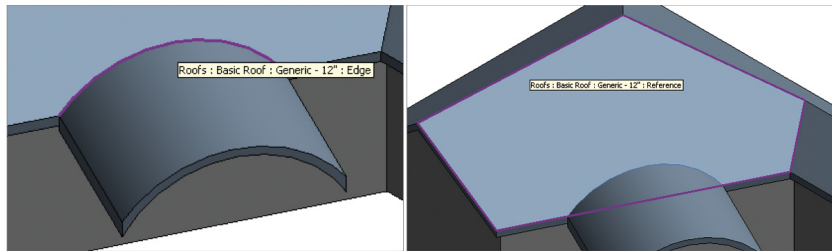

FIGURE 3.26 Attaching the roof
7. Hover over the rear edge of the extruded roof, as shown in the left image of Figure 3.26.